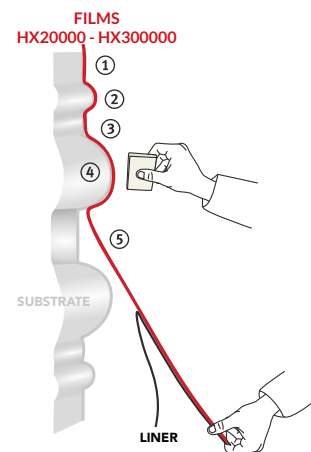

Figure06
- › Gradually remove the liner while pulling it downward (FIG. 06)
- › Start by applying the hollow ①, then the peak ② and finally the hollow ③.
- › Continue onto the next undulation ④, then keep going ⑤ until completion of the application.